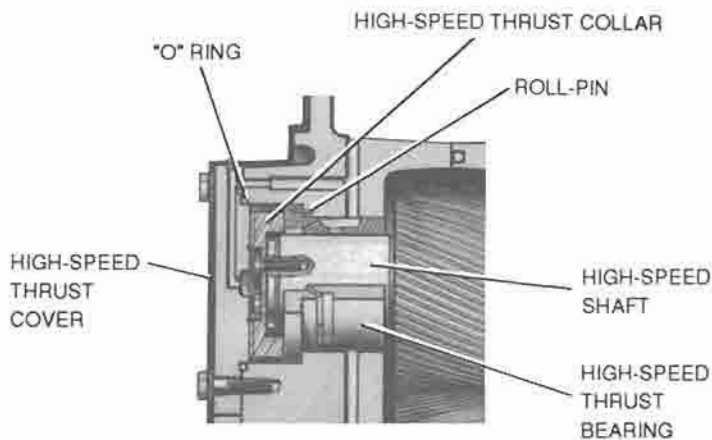

FIG. 25 – REAR HIGH-SPEED BEARING
REAR HIGH-SPEED BEARING COMPONENTS (SEE FIG. 25)
To remove/replace any of the components shown in Fig. 25, proceed as follows:
5. Apply a light coating of oil and Molykote to the inside surface of the high-speed thrust cover. Re-install the thrust cover using a new "O" ring. (See Fig. 25)